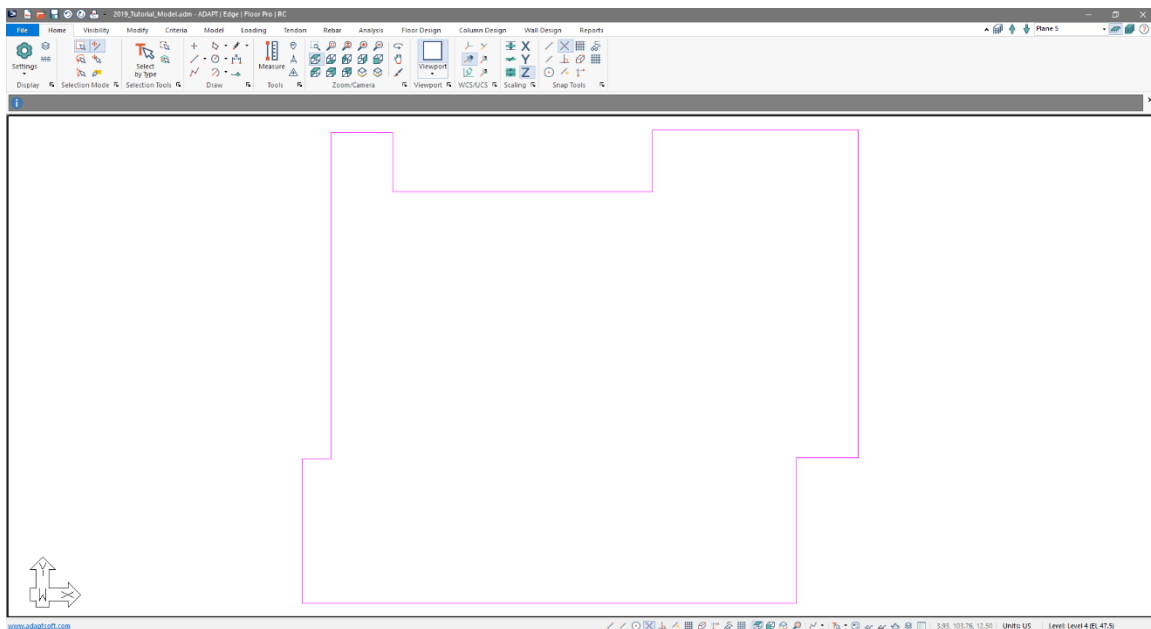

Figure 4-9
- Click on the **OK** button, the user should now see the slab region polyline from the imported DWG as shown in **FIGURE 4-9**.